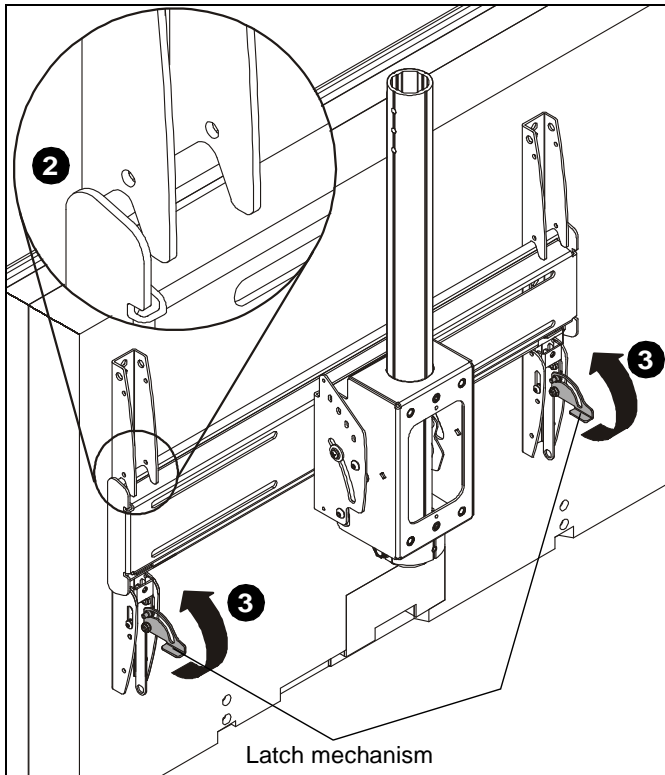

Figure 8
2. While supporting both sides of display, lower display onto ceiling mount, hooking top of interface brackets onto front of ceiling mount. (See Figure 8)
3. Raise the latch mechanism on both interface brackets to lock bracket in place. (See Figure 8)